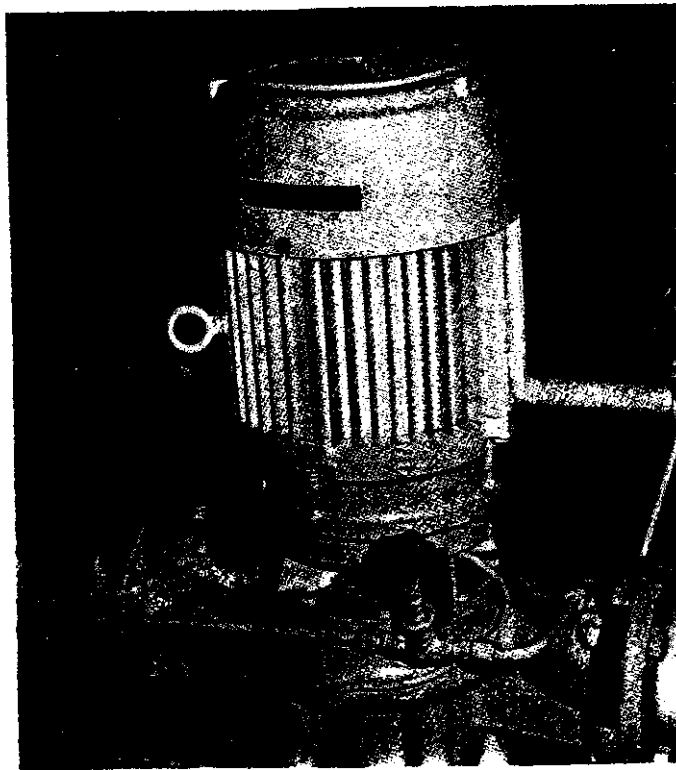

FIGURE A-2
(1) TANK #2 PORT	(1) TANK #1 STBD
(2) TANK #1 STBD	(2) TANK #2 PORT
(3) TANK #2 STBD	(3) TANK #1 PORT
(4) TANK #1 PORT	(4) TANK #2 STBD
A.2.3.1 Cargo Pumps. Two Aurora Pump Company, Model 382A, centrifugal, oily waste pumps are provided. Figure A-2 shows a